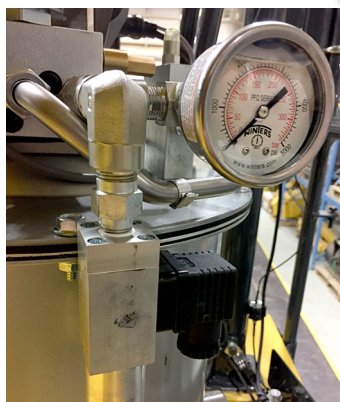

FIG. 148
- Inspect the pressure gauge and ensure the pump reaches 3500 psi before the pressure switch engages (FIG. 148).